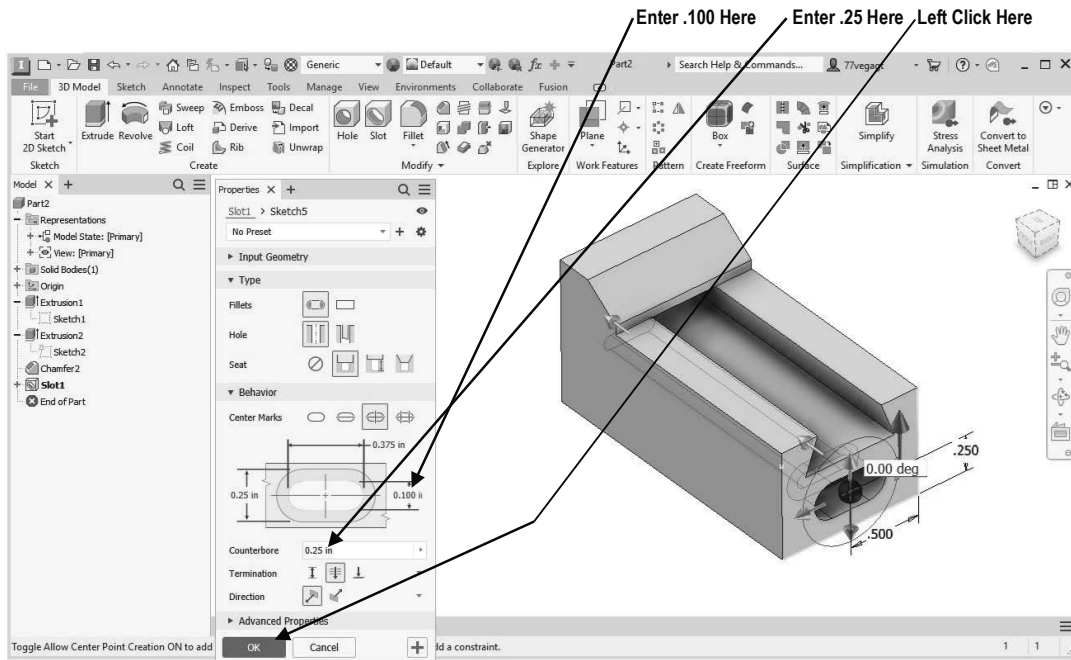

Figure 7
- Enter **.100** for the bore height, enter **.25** for the counterbore depth, left click on **OK** as shown in Figure 7.